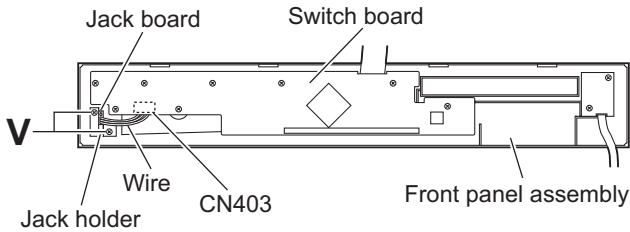

Fig.1
2.2.1 Removing the jack board (See Fig.1.)